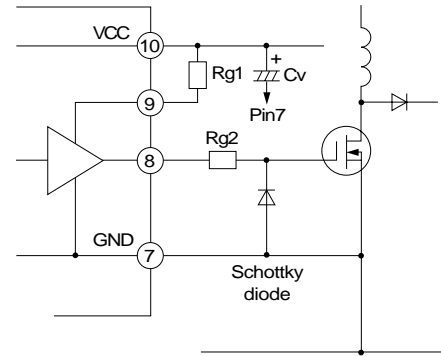

Fig. 8 Output circuit
As Fig. 8 shows, pin 9 is configured as the high power terminal (VC), independent of the IC power terminal (VCC). This pin allows an independent drive resistance when the power MOSFET is ON and OFF. If the drive resistances in the ON and OFF states are Rg (on) and Rg (off), the following formulas can be used to determine the total gate resistance